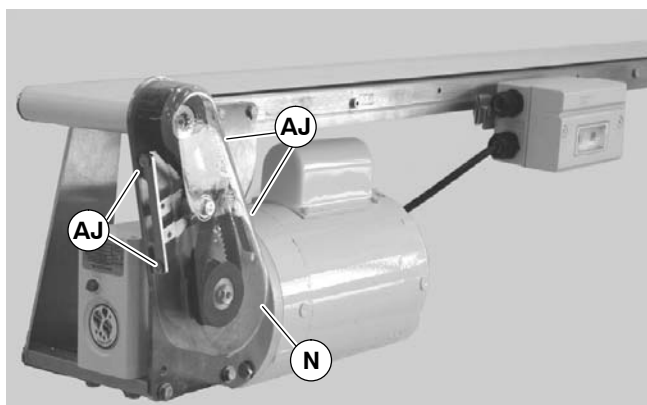

Figure 24
1. Loosen four (4) screws (AJ of Figure 24) and remove cover (N).
NOTE: Do not over-tighten screws (AJ of Figure 24).
- Attach cover (N of Figure 24) and tighten four (4) screws (AJ) to 35 in-lb (4 Nm).